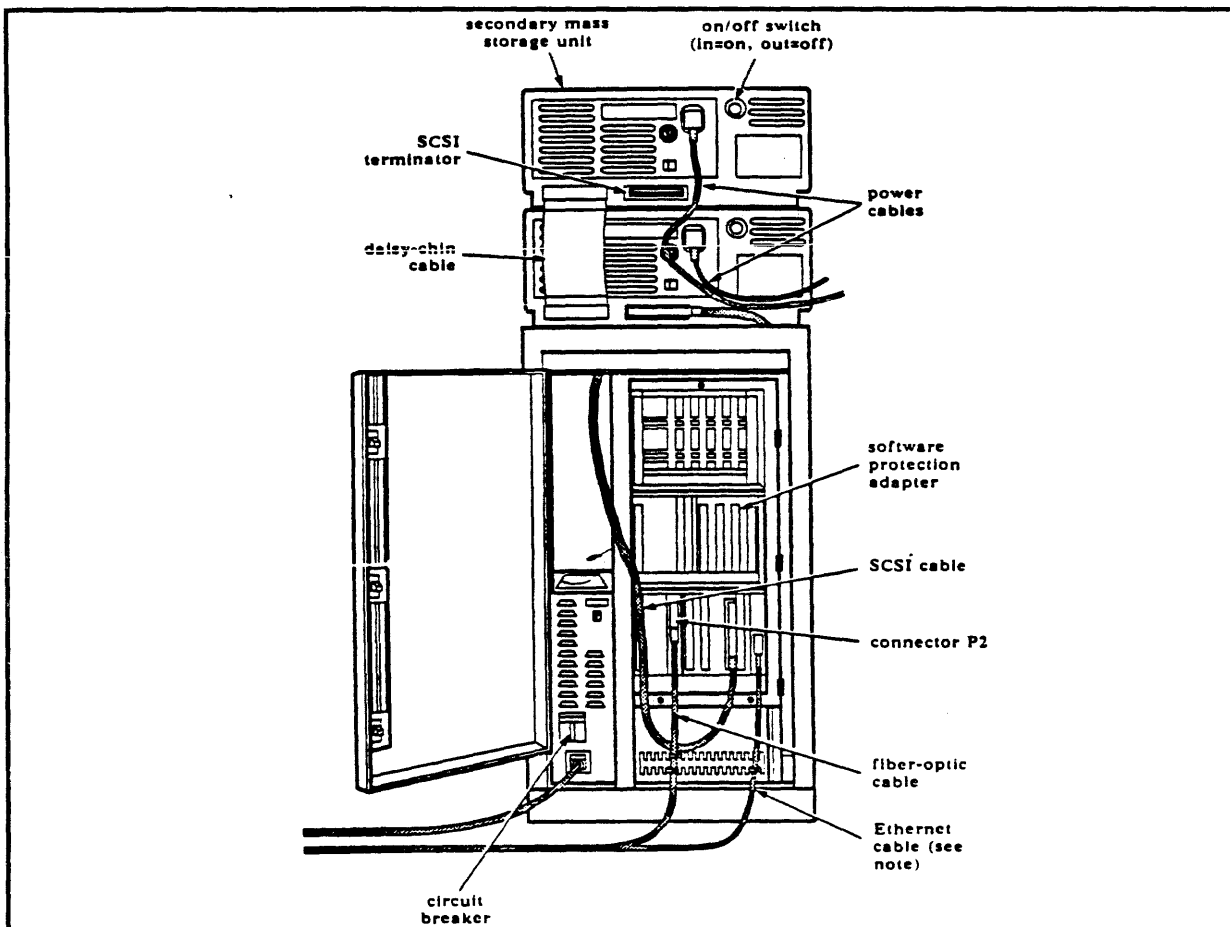

Figure 2-2 Explorer II Cabling
- The Explorer II AC power input section has circuit breaker protection as opposed to a fuse. The auxiliary AC plug receptacles used in the Explorer I are not provided in the Explorer II chassis. (See Figure 2-2). The fan motor power supply used in Explorer I chassis is replaced by the power interface board in the Explorer II chassis.